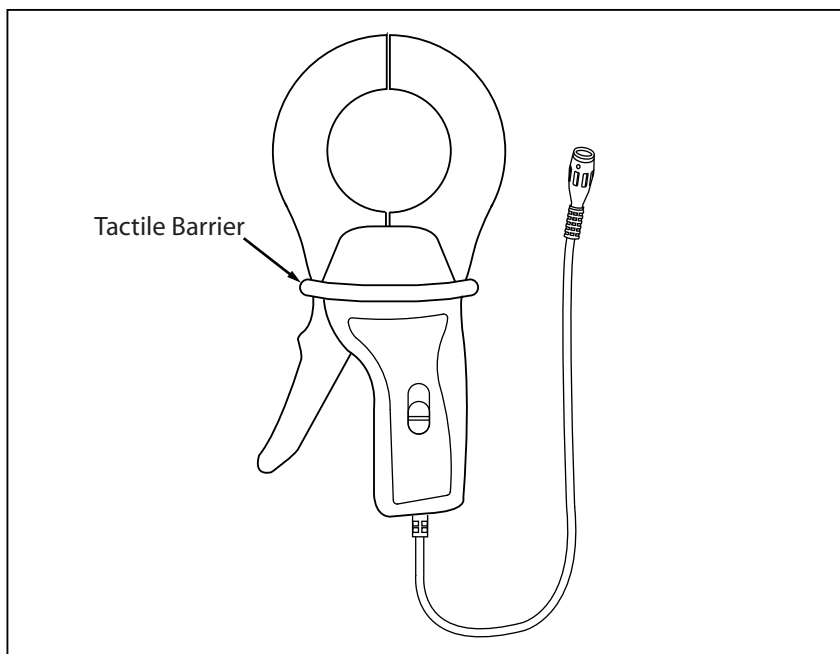

Figure 1. i1000s AC Current Probe
The Fluke i1000s is a clamp-on ac current probe designed to expand oscilloscope applications in industrial and power environments. The Current Probe (shown in Figure 1) provides the following features:
- Do not hold the clamp anywhere beyond the tactile barrier. See Figure 1.